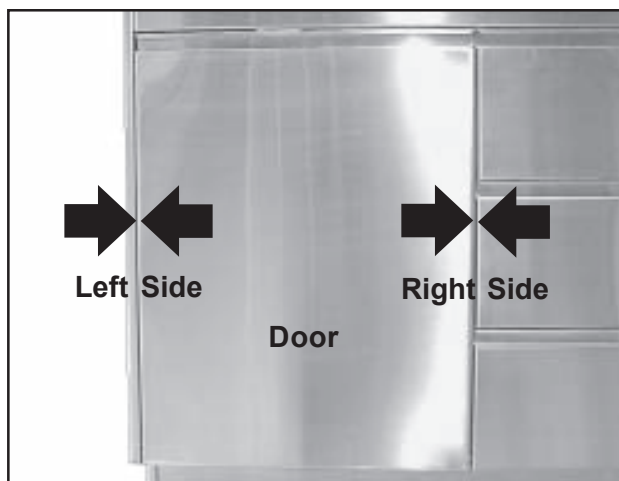

Figure 9. Adjusting the Door Left-Right
2. Observe the gaps between the left and right sides of the door and the door frame (Figure 9).